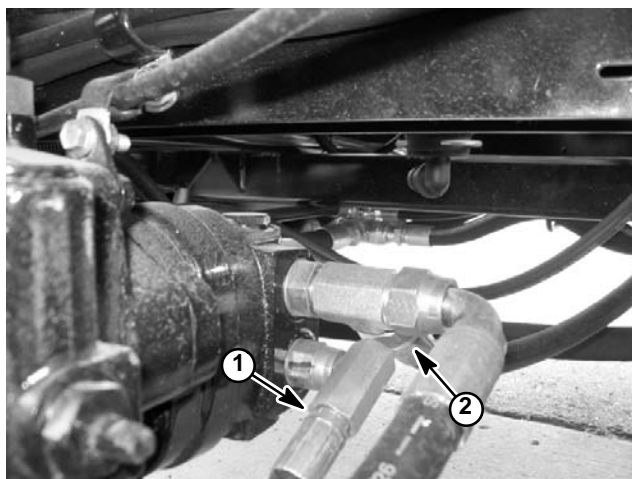

Figure 17
3. Clean hose fitting and disconnect lower pressure hose from the left side of the gear pump (Fig. 17).